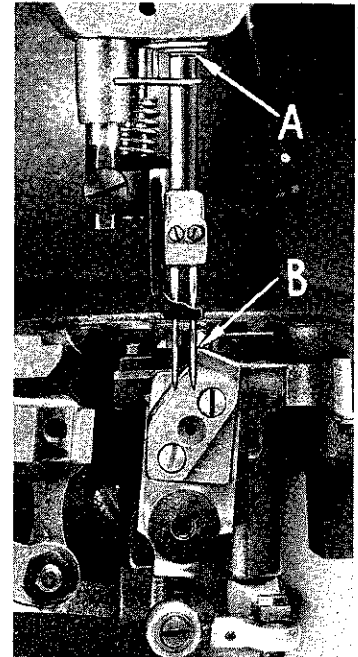

Fig. 15
Turn the handwheel in its operating direction until the needle bar has reached the bottom of its stroke. Continue to turn the handwheel until the needle bar has risen to where the hook timing line (A, Fig. 15) is even with the bottom of the needle bar bushing. At this time, the point of the sewing hook (B) should be even with the center line of the eye needle.